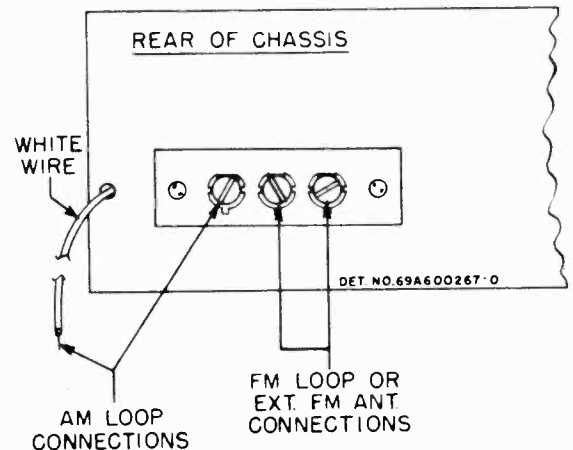

FIGURE 1. EXTERNAL ANTENNA CONNECTIONS
No outside antenna or grounds normally required for standard broadcast (AM) reception, as a loop antenna is located inside the cabinet. Antenna connections are shown in Figure 1. In locations where additional pick-up is desired, an external antenna may be connected to the clip marked "EXT BC ANT" on the loop antenna.
In "fringe" or weak signal areas, improved FM reception can be obtained by using an outside FM antenna. The loop connections should be removed from the terminal strip on the rear of the chassis and the outside antenna should be connected, through a 300 ohm twin transmission line, to the terminal strip, as shown in Figure 1. Orient the antenna to obtain maximum volume of the FM stations.